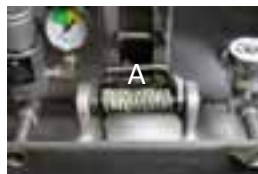

Figure 4.
4. Lubricate the coils of the hinge spring (remove and re-install the spring cover figure 3) figure 4.